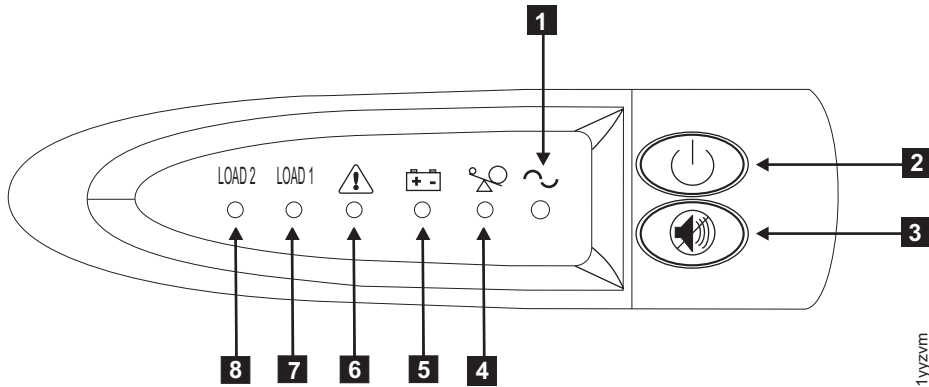

Figure 127. Power switch and indicators of the 2145 UPS-1U
12. To turn the 2145 UPS-1U on, press and hold the on/off button **2** until the power light is extinguished (approximately five seconds). See Figure 127. The 2145 UPS-1U undergoes a self-test before the power-on indicator **1** and the load indicators (**7** and **8**) light up to indicate that the 2145 UPS-1U is supplying power to the SAN Volume Controller. The 2145 UPS-1U begins to charge its battery while in normal mode.